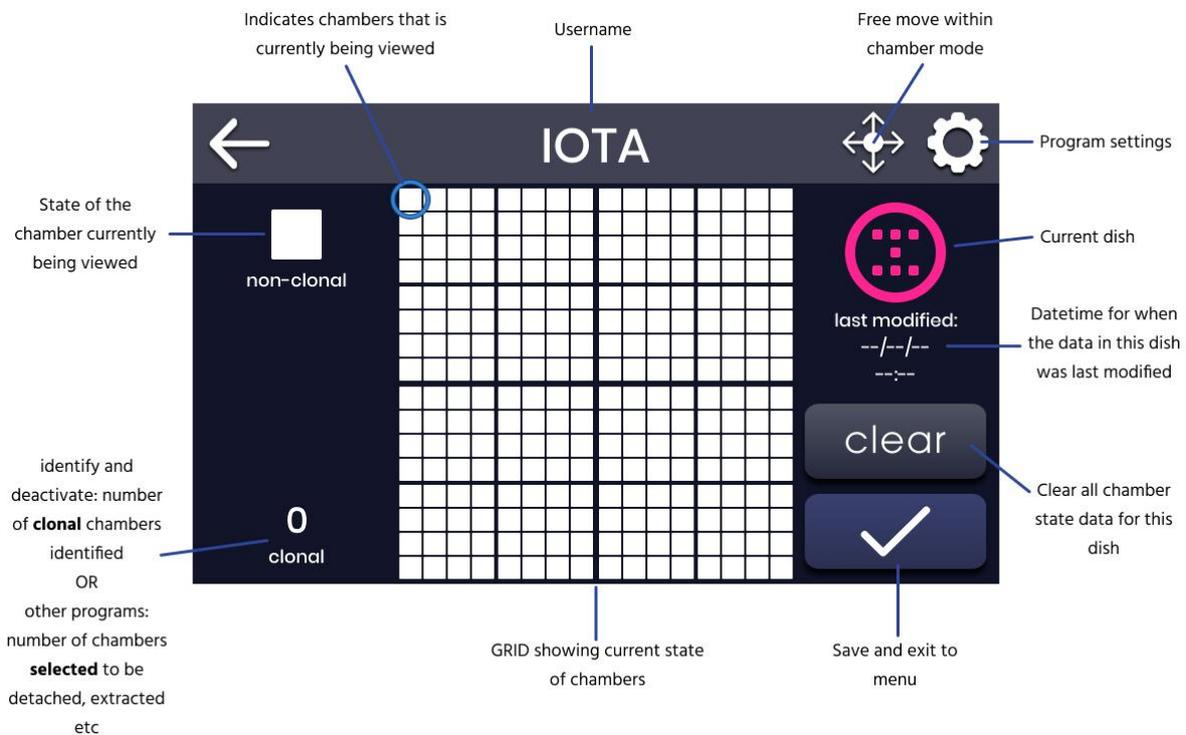

Figure 5: *Identify* screen showing a blank dish (user IOTA's PINK dish) before identifying monoclonal chambers.
4. *Select chambers.* A screen like that in Figure 5 will appear on the touch screen, and the dish holder will move so that the first available chamber of the GRID is in view.
The chamber that is currently being viewed is indicated on the touchscreen by a blue circle - in the above example, the isoHub is viewing chamber A01. A larger icon to the left of the GRID shows the state of the chamber that is currently being viewed. For example, in Figure 5, we are currently viewing chamber A01 which is in a non-clonal state. See section 4.4 for a full list of chamber states.
On the screen in Figure 5, click on the quadrant containing the chamber to move to. This will display a zoomed in view of that quadrant. Then click on the chamber to be viewed, and the dish holder will move so that that chamber is centred in the field of view. Clicking on the same chamber again will change the state of the chamber (the state change depends on the program being run).
Some settings are available during a program, and are available by clicking the  button in the top right corner of the program screen (Figure 5).